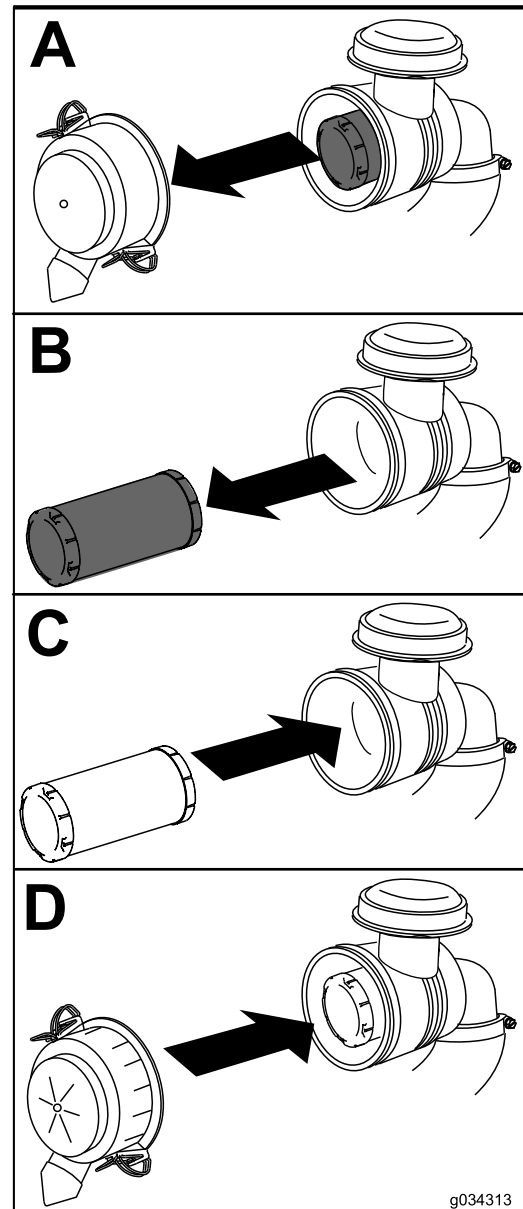

Figure 39
4. Install the air-cleaner cover with the side indicated as "UP" facing upward and secure the latches (Figure 39).
1. Gently slide the air filter out of the air-cleaner body (Figure 39).